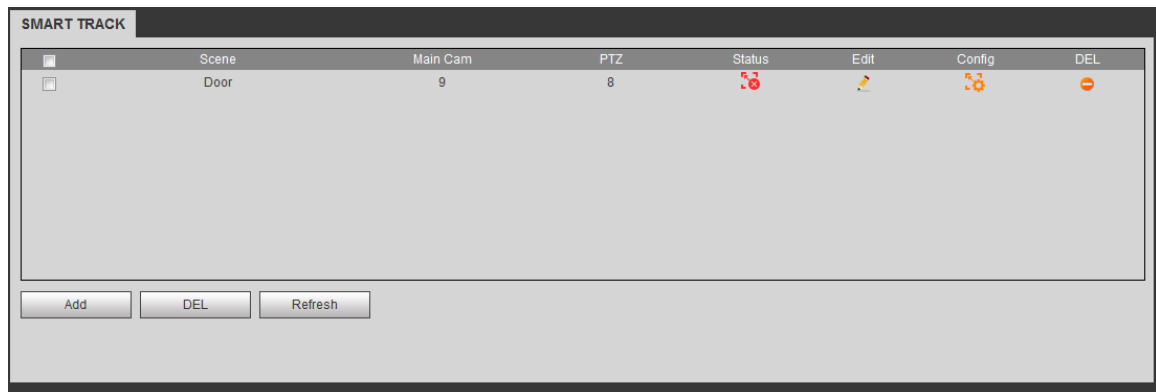

Figure 5-97
Monitor position settings are complete. See Figure 5-97.
1. In Figure 5-97, click or double click the line.